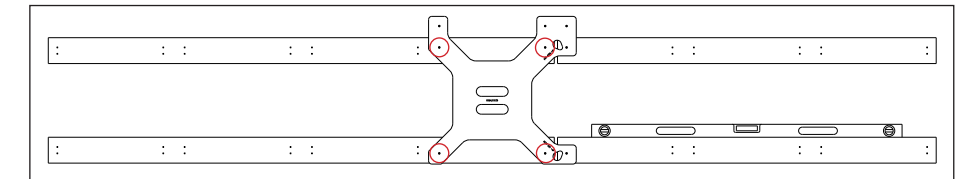
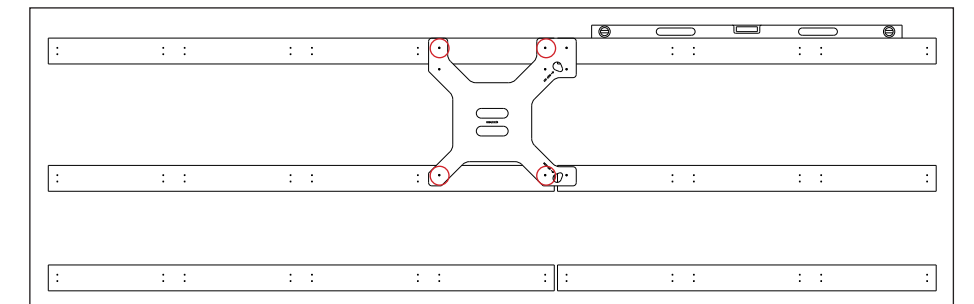

Figure 6: Install Adjacent Wall Tubes
Figure 7: Install Adjacent Wall Tubes
5. Install adjacent wall tubes while referring to **Figure 6 and **Figure 7**:**
- d. Drill four 17/64" (~0.266") clearance holes through the front and rear walls of the tube at all stud locations. Refer to **Figure 6** and **Figure 7**.